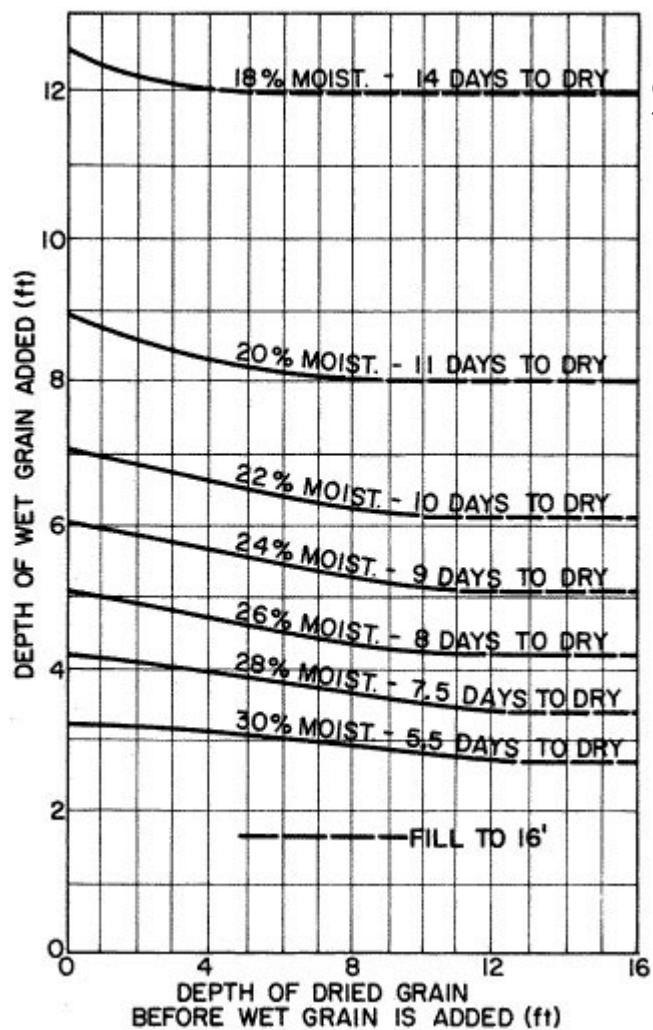

Figure 1
Figures 1, 2 and 3 give recommended depth of fill for different depths of dried corn already in the bin and for different moisture contents of corn in the fill layer. The depth of fill from Figures 1, 2 or 3 multiplied by the fill adjustment factor in Table 1 gives the depth of fill for the particular fan (or fans) and bin diameter used. If you are selecting a fan (or fans) for your bin, the combinations of fan(s) and bin diameters where the fan factor is **bolded** in Table 1 are the most economical.
***Multiply depth from Figures 1, 2 and 3 by these factors.**
After the depth of fill has been determined, the estimated time to dry the layer is shown in Figures 1, 2 or 3. This is an estimate. The next layer can be added when a visual inspection or a moisture test determines that the top surface of the last layer added has dried to 15 percent moisture or less.
- Find the approximate depth of the **initial** fill from Figures 1, 2 or 3. The depth is based on the moisture content of the corn put in the bin (fill moisture or M_f) and zero depth of dried corn. Also, find the approximate days required to dry the corn that is given on the moisture content line.
This procedure can be simplified by working with wet corn depths only. The chance of mold will not be increased. Next, find the depth of next fill and the approximate drying time on the moisture content line in Figures 1, 2 or 3.
- From Figure 1 (with $M_f = 24$ percent and zero dried grain depth), fill depth is 6 feet of wet corn and the approximate drying time is nine days (Figure 4).
- Dried depth is 4.9 feet (from Table 2, 6.0 feet \times 0.82 = 4.9 feet). Corn now harvested tests 20 percent. From Figure 1 (with $M_f = 20$ percent, and 4.9 feet dried grain depth), fill depth is 8.3 feet, and approximate drying time is 11 days.
- Second fill shrinks to 7.5 feet (8.3 feet \times 0.90 = 7.5 feet). Dried depth of corn is now 4.9 + 7.5 = 12.4 feet. Corn now harvested tests 18 percent. From Figure 1 (with $M_f = 18$ percent, and 12.4 feet dried grain depth), the bin can be filled to more than 16 feet, the maximum depth for this bin. Fill bin to 16 feet and run fan 24 hours per day until the top surface of corn is 15 percent moisture.